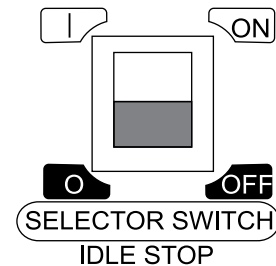

Figure 22. Idle Stop Selector Switch (OFF)
4. Place the idle stop selector switch (Figure 22) in the **OFF** position.